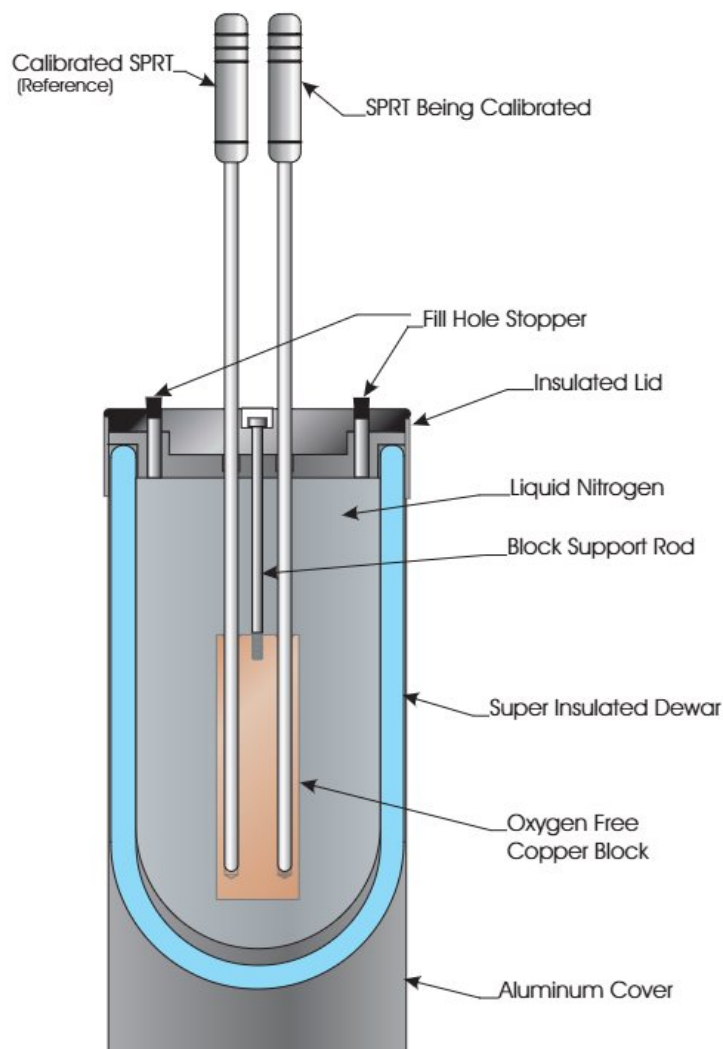

Figure 2 Cut-Away View of Liquid Nitrogen Comparator
The Hart Scientific Liquid Nitrogen Comparator Model 7196 (Figure 2) consists of a Pyrex™ Dewar Flask, a lid, a connection rod and an oxygen-free copper block with four wells to accommodate thermometers to be calibrated. During use the oxygen-free copper block is completely immersed in liquid nitrogen. Up to four thermometers, including a reference thermometer as the standard for comparison calibration, are directly immersed in the liquid nitrogen inside the block. The boiling temperature of nitrogen depends on the atmospheric pressure. If the pressure is stable, the liquid nitrogen temperature will be stable and uniform also. The oxygen-free copper has extremely good thermal conductivity, therefore, the copper block will enhance the temperature uniformity in the comparator greatly.
3. Check that the lid is securely in place. Insert SPRTs or other types of temperature probes to be calibrated into the liquid nitrogen and into the wells in the block. (See Figure 2)